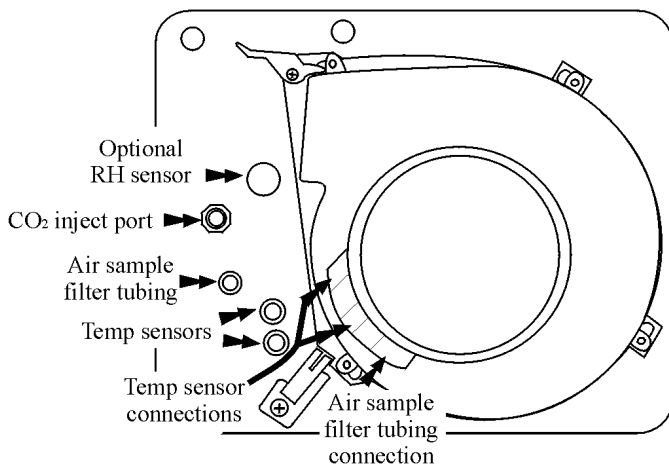

Figure 5-4
On I/R incubators, the red light on the I/R module (Refer to Figure 5-4 for the location of the module circuit board) will be lit continuously if communication is lost between the CO₂ board and the sensor head. The CO₂ display will also be locked at 00.0 without injection. Turning the incubator off and on will not clear the alarm. Only proper connections of all the components will correct the alarm.
16. Carefully pull the temperature sensors and air sample filter tubing down until they can be inserted approximately 1 inch into the appropriate holes in the back of the blower scroll. If applicable, place the optional RH sensor into the corresponding clip on the top duct. See Figure 5-4.